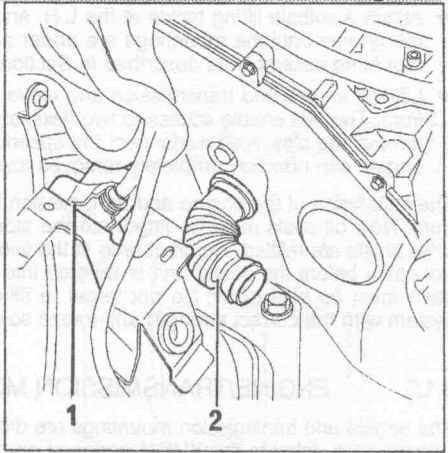

Fig. 1.3. — Removal of the connector (1) and the sleeve (2) referred to in the text.
Remove the following hoses by referring to Fig. 1.3: (1), (3), (4) and (5). Special hoses clamps are used which must be opened with a pair of pliers. Also disconnect their conditioning condenser (4) from the cooling radiator (2). The radiator can now be removed. Unscrew the A/C compressor and place it to one side.